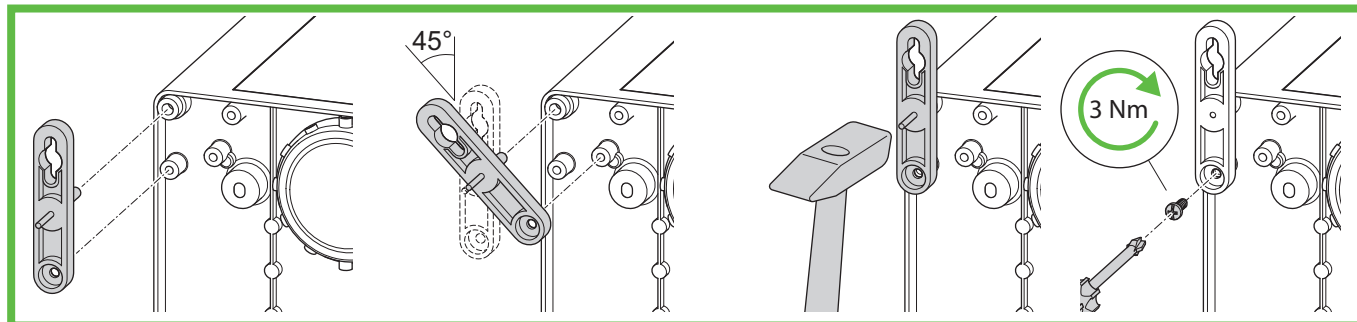
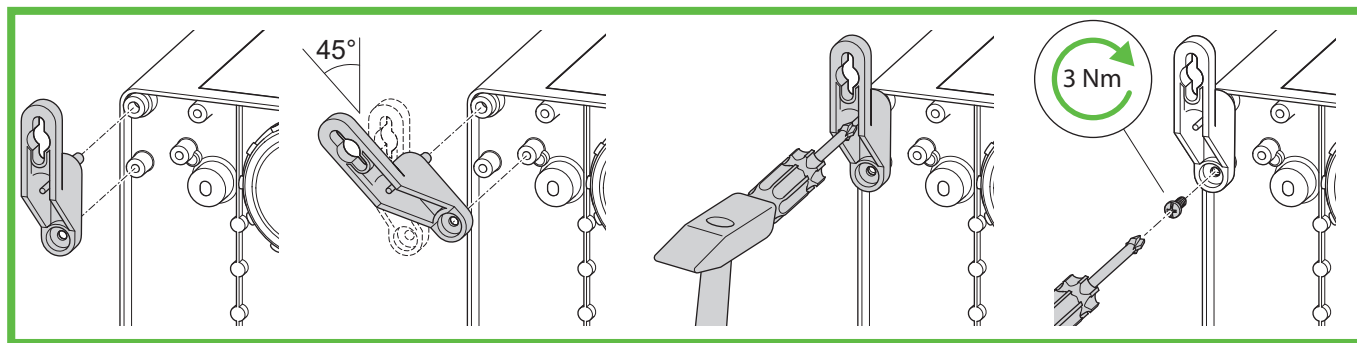

Figure 10: Assembly ABL-10
Figure 11: Assembly ABL-40
- ▶ Mount the external fixing brackets (Abb. 10 or Abb. 11).